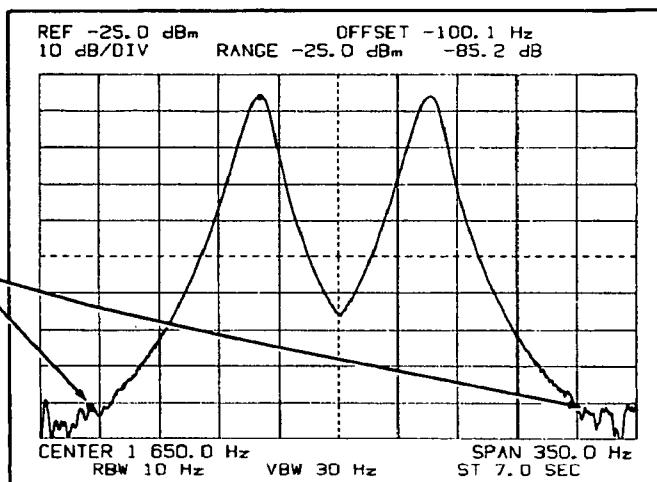

Figure 4-24. IM Distortion Response.
- h. Watching the offset frequency in the upper right-hand corner of the 3585A display, move the marker until the frequency reads -100 Hz  $\pm$  1 Hz (see Figure 4-24).